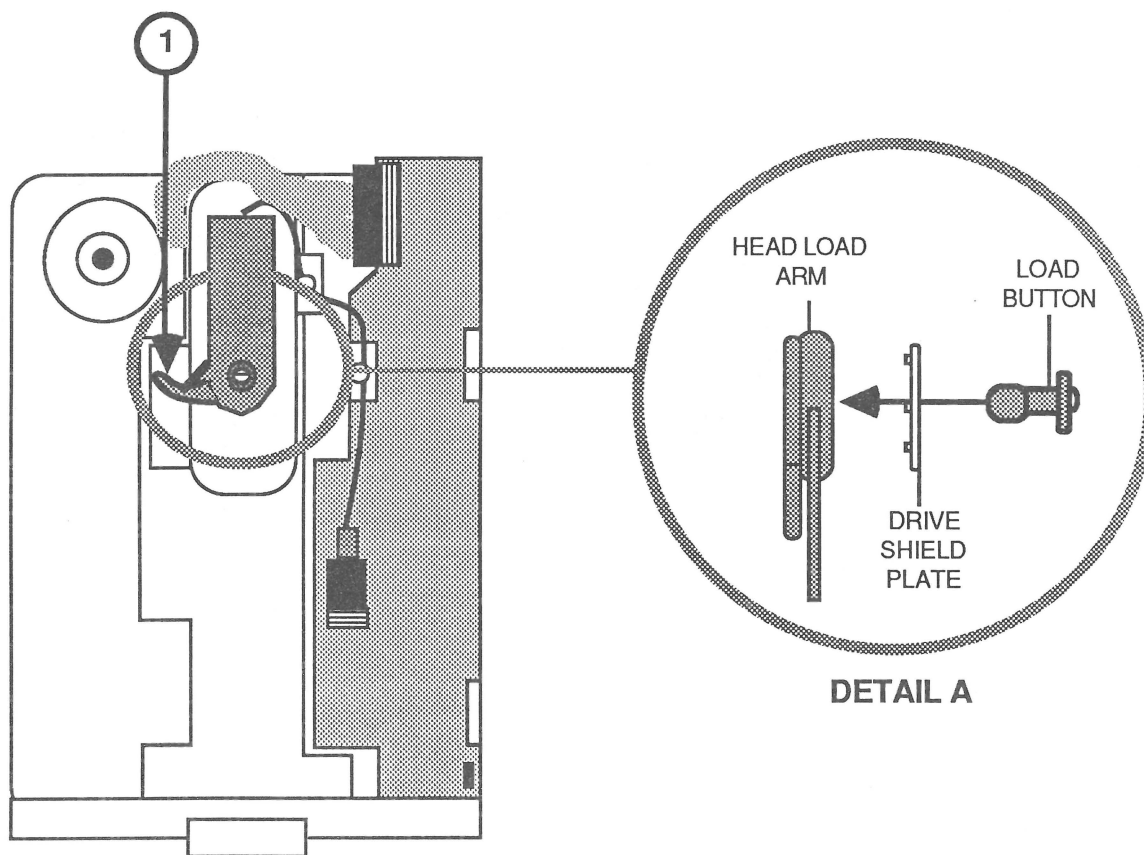

FIGURE 9
7. Reinstall the button (or install a new one if necessary). Insert it through the hole in the shield plate and into the head load arm (Figure 9, detail A). Press the button until it snaps into place.